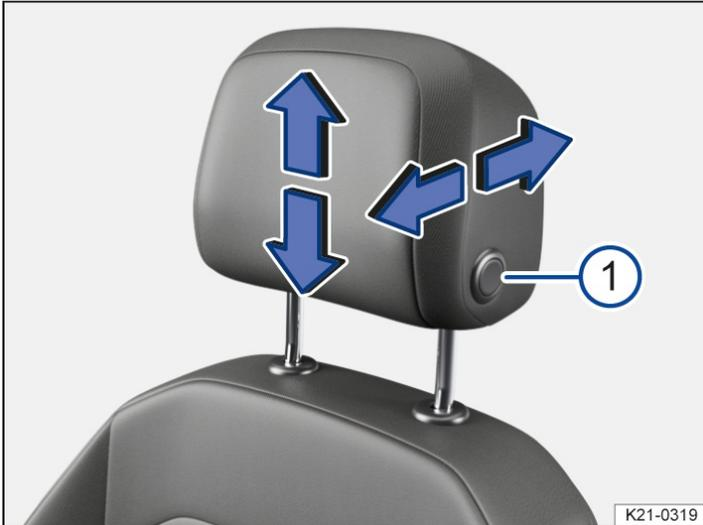

Fig. 4 General example: adjusting the front head restraint with forward/backward adjustment.
1. Push the head restraint forward in the direction of the arrow or, keeping the button → *fig. 4* 1 pressed, push the head restraint backward.